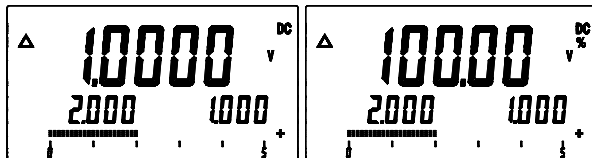

Figure 2-9. Relative Mode
- Press  once to select the Relative Mode. (The meter enters manual range when you enter the Relative Mode.) The reference appears in the second secondary display. The new measurement shows the first secondary display. The difference between the reference and a new measurement appears in the primary display (See figure 2-9).